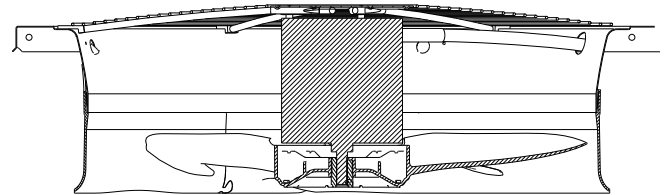

Fig. 32 – Condenser Fan Adjustment
2. Remove condenser-fan assembly (grille, motor, and fan). See Fig. 32.